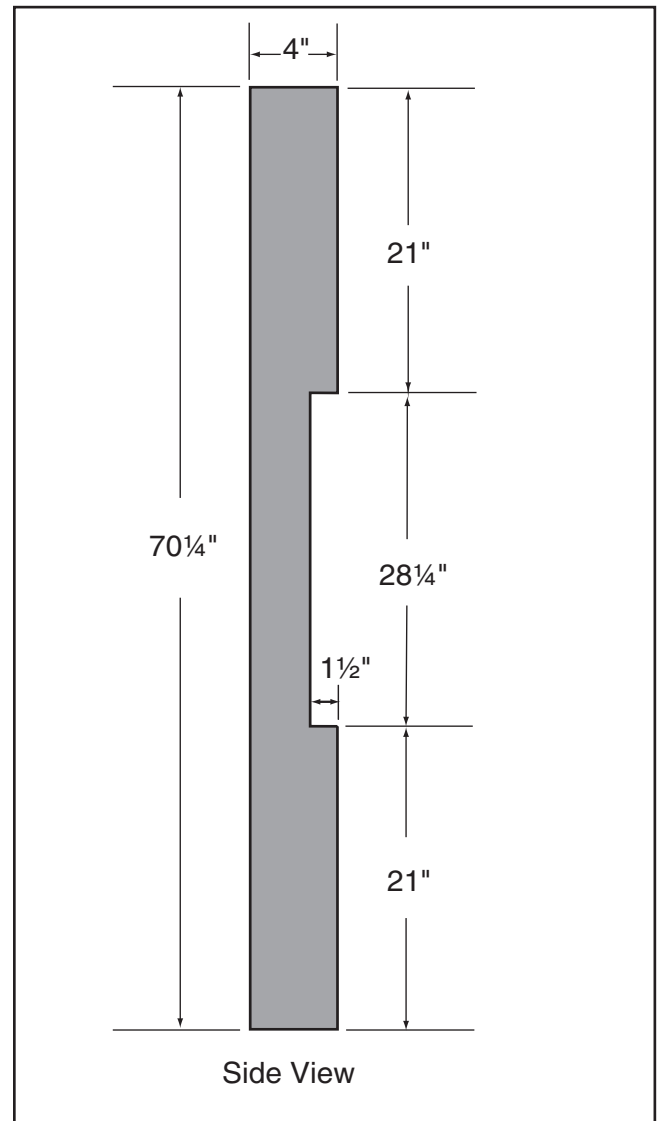

Figure 52. Dimensions of coplanarity gauge.
1. The body of the bandsaw does not allow you to place a regular straightedge across both wheels at the same time. We’ve found a simple way to overcome this situation. All you need is a 70 $\frac{1}{4}$ " x 2" x 4" board, a jointer and a circular saw. Run the 2" x 4" across a jointer on the side to be placed against the wheels, then cut a 1 $\frac{1}{2}$ " x 28 $\frac{1}{4}$ " notch out of the center. Refer to **Figure 52** for more details on how to make this gauge.